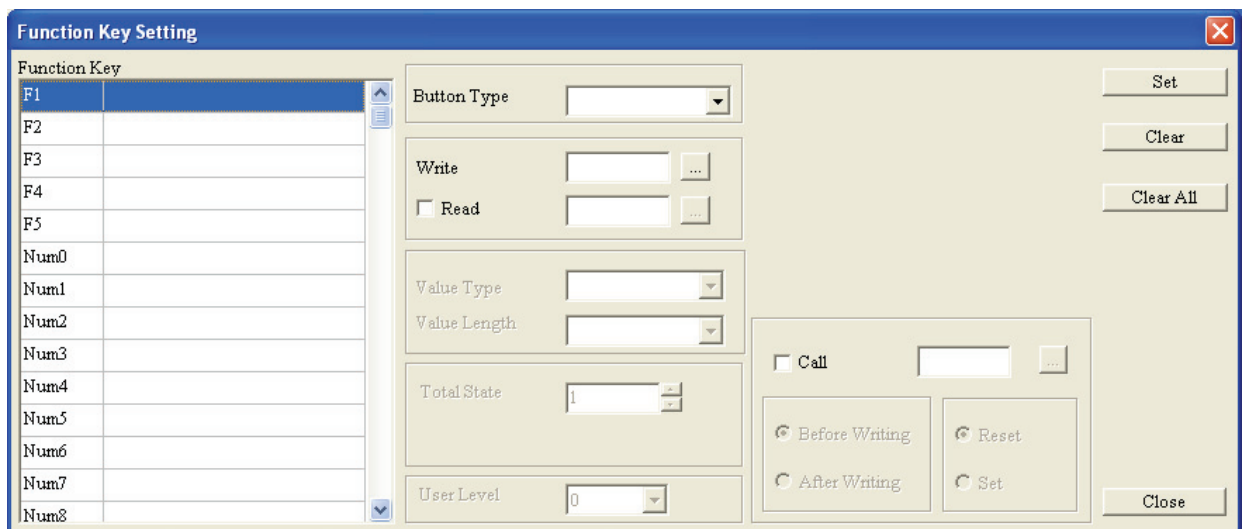

Figure 1-129
Step 3. The users can set the button type of each function keys, i.e. F0, F1..., Num0, Num1..., Up, Down, Left, Right... in Function Key Setting tab. Because the Button Type settings are the same as the Button Type settings of Button object. The users can refer to page 49~50 in this chapter for the detailed description. After the settings of one function key are completed, the users need to press **Set** button to save the settings otherwise the function key could not work according to its settings. If the users want to clear the function of one certain function key, just press **Clear** button. If the users want to clear the functions of all function keys, then press **Clear All** button. After completing the settings of the function keys, pressing **Close** button could exit the Function Key Setting tab (Figure 1-129).